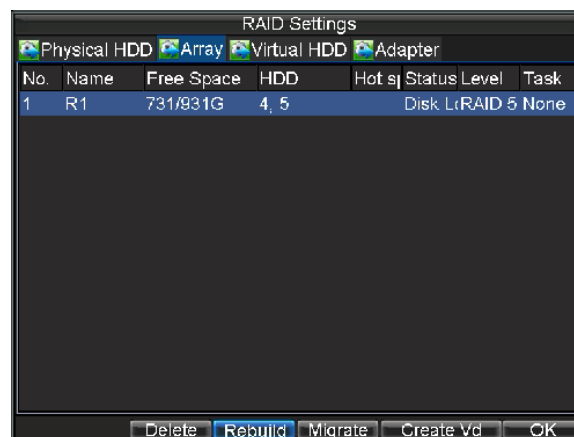

Figure 14. Select Array for Rebuilding
2. Select the **Array** tab to enter the Array interface, as shown in Figure 14.